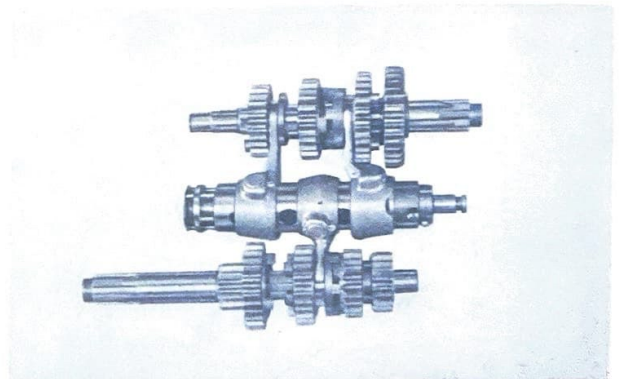

Fig. 4-16-9
a. Reinstalling the Gear Ass'y and Shifter Reinstall the transmission and shifter as a unit in the left crankcase half after they are sub assembled. Remember that the gear ass'y and shifter drum can not be installed separately. (Fig. 4-16-9)